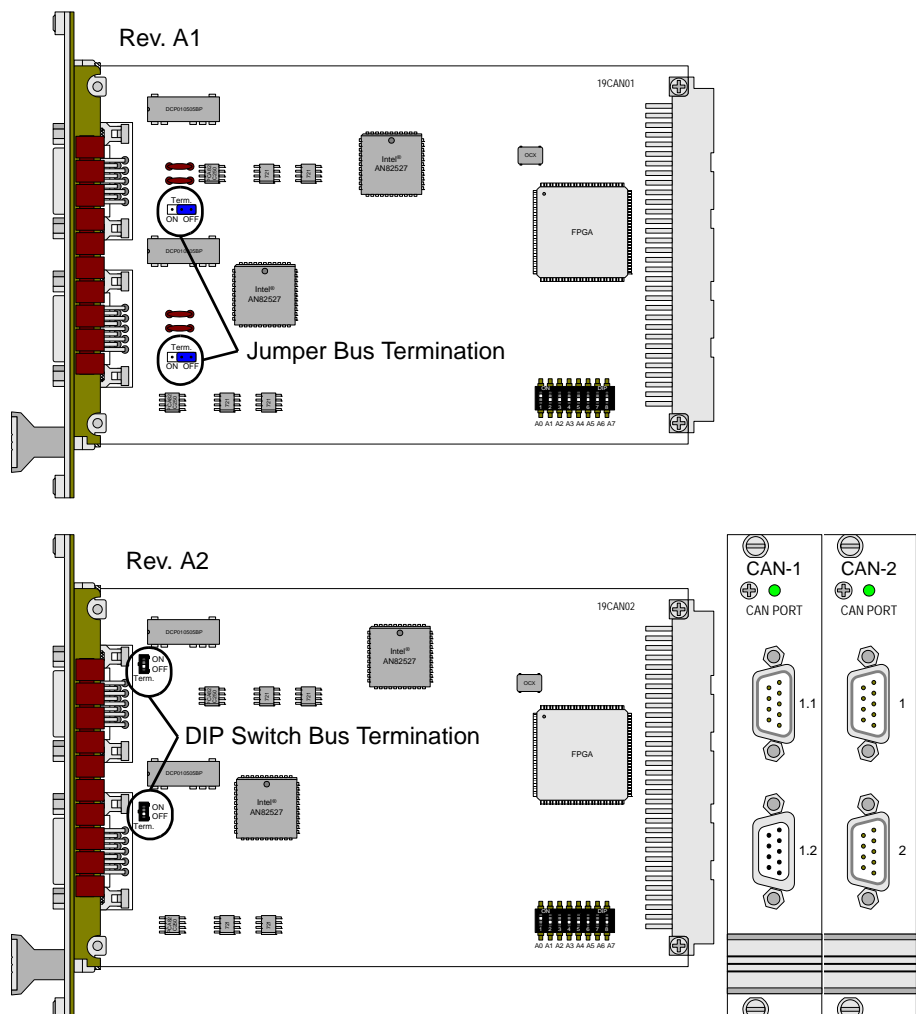

Fig. 268 – Pro-CAN-1/-2: PCB and front panels
If the CAN module functions as the physical termination of a high-speed CAN bus, the terminator must be a resistor (only the first or the last CAN node). If a termination is necessary, move the DIP switch (Rev. A2, see fig. 268) upward; when using the module revision A1 set the jumper to the left position (ON). CAN nodes, which are not positioned in an end-location, must not be terminated.